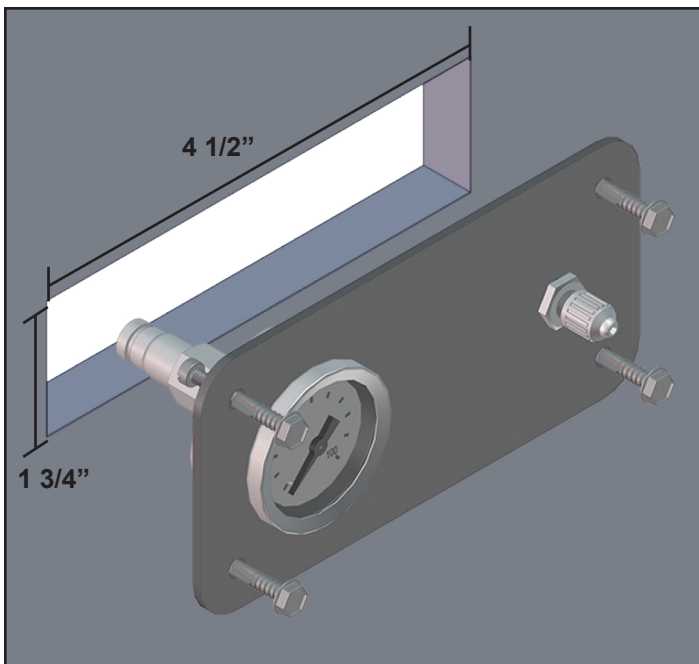

Fig.13
2. Determine the location of the assembly and, with a suitable tool, cut a 4 1/2"x1 3/4" opening for the air gauge and the fill valve (**Fig.13**).